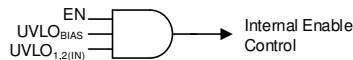

Figure 42. Simplified Turnon Control
Controlling when a single power supply turns on can be difficult in a power distribution network (PDN) because of the high power levels inherent in a PDN, and the variations between all of the supplies. As shown in Figure 42 and Table 2, the LDO turnon and turnoff time is set by the enable circuit (EN) and undervoltage lockout circuits ($UVLO_{1,2(IN)}$ and $UVLO_{BIAS}$).